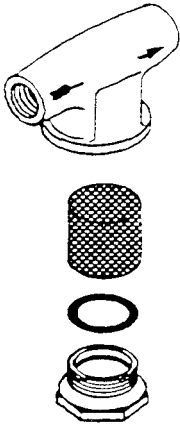

Figure 2-12. Water Strainer Assembly
- f. At the points indicated in the recommended plumbing layouts, install a 40-mesh water strainer of the type and construction illustrated in Figure 2-12. A strainer is provided with the Steam Craft 10.